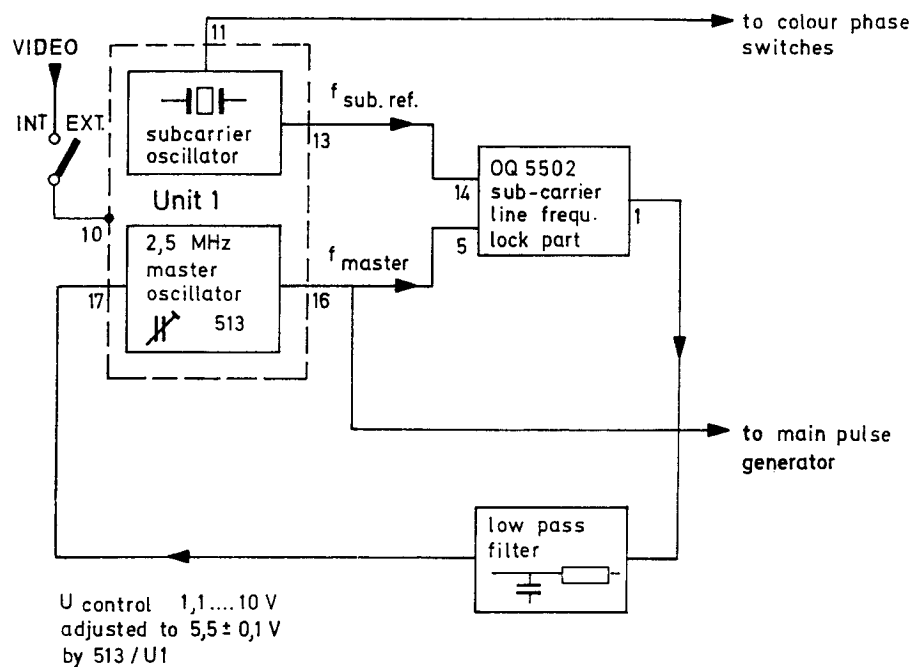

Fig. 3 Phase locked loop of master and sub-carrier oscillator
The high stability of the raster frequency is achieved by the phase-locked-loop (PLL) coupling of the master frequency with the sub-carrier frequency, fig. 3.
2.2.1.1. Clock frequency, fig. 3.